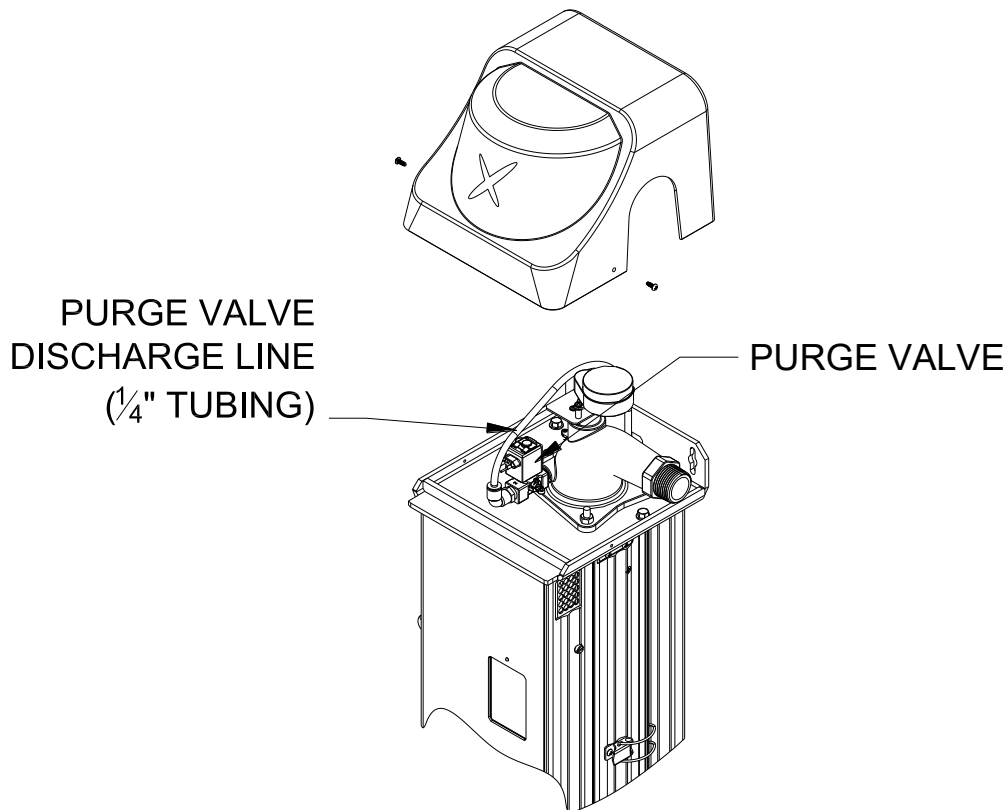

Figure 4.3
Step 3: Connect the purge valve to a drain using the tubing provided – see Figure 4.3. The tubing can be placed down the back side of the unit. The tubing should be secured to the wall or floor to prevent it from moving during the purging cycle. **During startup of the unit, it is strongly recommended to test the purge valve to confirm connections are free of leaks and the water discharges to drain.**